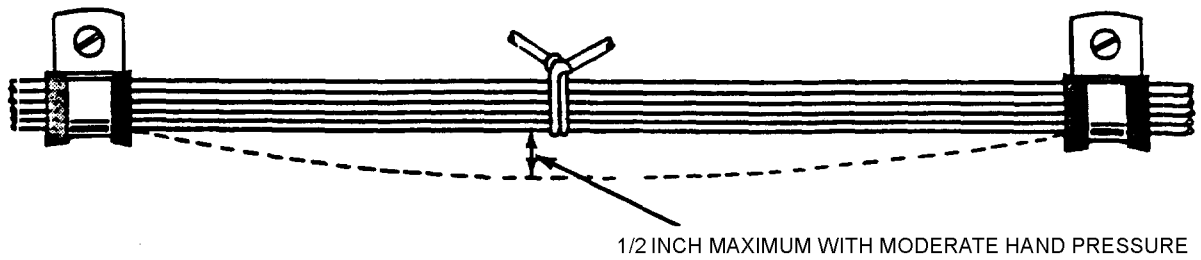

Figure 37. Slack Between Supports
50. Do not install single wires or wire bundles with excessive slack. Slack between support points such as cable clamps should normally not exceed 1/2-inch. (Figure 37). This is the maximum that it should be possible to deflect the wire with moderate hand force. This may be exceeded if the wire bundle is thin and the clamps are far apart, but the slack must never be so great that the wire bundle can touch any surface against which it may abrade. Allow a sufficient amount of slack near each end for any or all of the following: